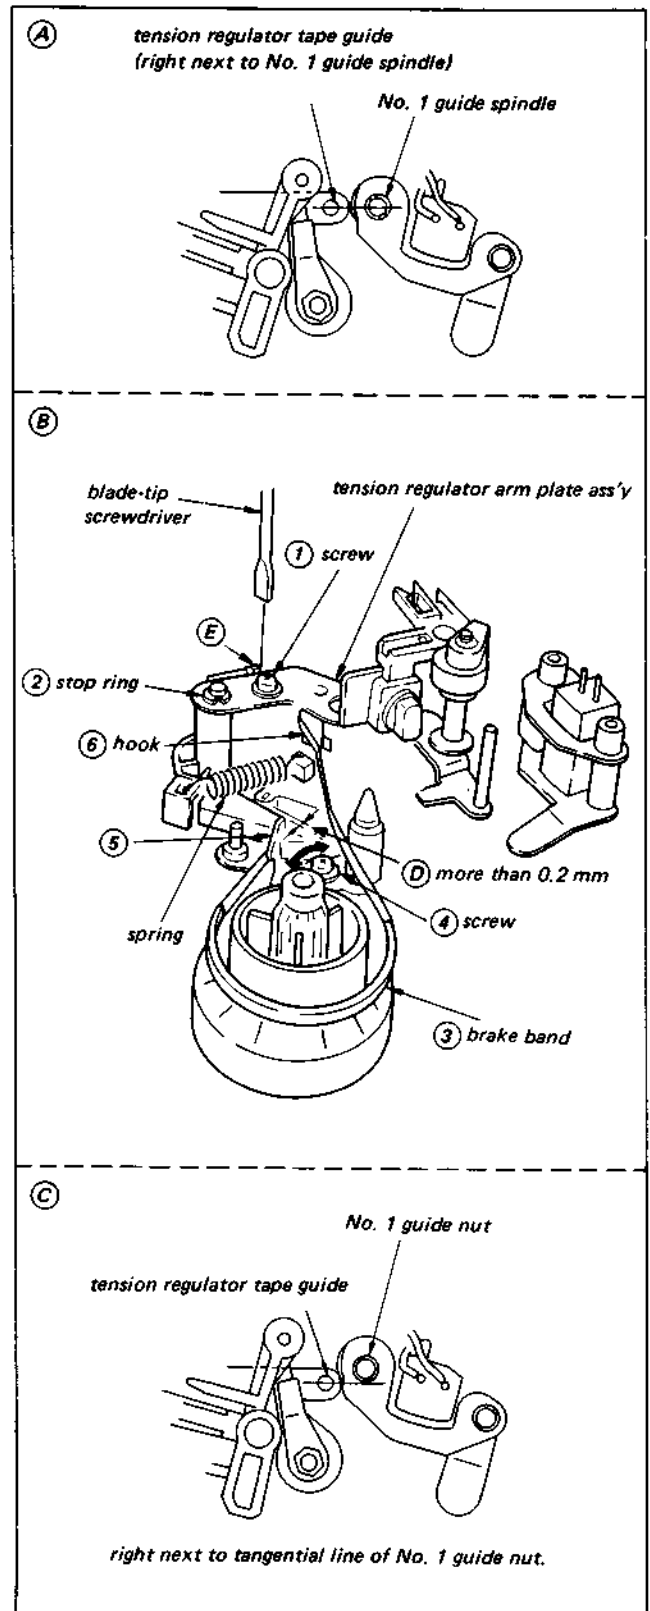

Fig. 3-8. Replacement and adjustment of tension regulator arm plate ass'y and brake band ass'y
- 1) The brake band assembly can be removed after removing fook (6), screw (4) shown in Fig. 3-8 (B).
- (iii) Move the brake band (5) in the direction of the arrow as shown in Fig. 3-8 (B), so that it is positioned as shown in section (A) in Fig. 3-8. Then tighten screw (4).
- 1) The tension regulator arm plate is removed by removing screw (1), stop ring (2) and the hook side of the brake band assembly (3). (See Fig. 3-8 (B))
- (ii) As shown in Fig. 3-8, loosen screw (1) which holds the tension regulator arm assembly, insert a blade tip screwdriver into section (E) and adjust until the condition shown in (C) in Fig. 3-8 is obtained. Tighten screw (1).
- (iv) As shown in Fig. 3-8, loosen screw (4), and move the brake band (3) in the direction of the arrow. Tighten screw (4) when the condition shown in (A) is obtained.
**Note:** Confirm that the clearance at section (D) is more than 0.2 mm.